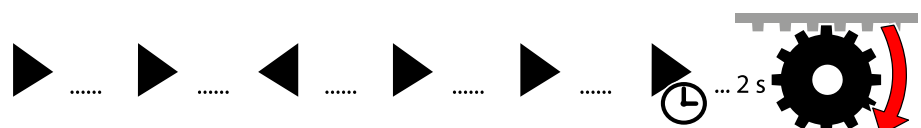

Fig. 104: Limit position setting – Deleting the right limit position
- ➔ Move to the right limit position and delete both limit positions with the following key combination (see Fig. 104).